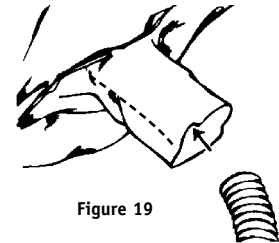

Figure 19
6. Tuck cap brim on top of front elastic Velcro band sewn into hood (see Figure 19).
- Insert the open end of the breathing tube approximately five inches into hood's air entry sleeve (see Figure 19). Do not insert breathing tube into hood air entry sleeve more than 6 inches as it may cause a flow restriction.